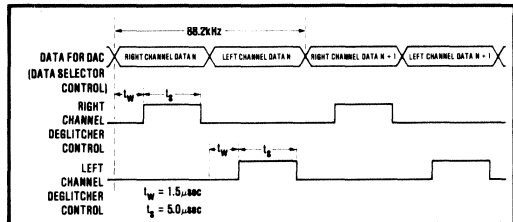

FIGURE 15. Timing Diagram for Digital Oversampling Technique when the Sampling Frequency is Multiplied by a Factor of Two.
14. Figure 15 is the timing diagram for this technique. This circuit requires a very fast D/A converter since the sampling frequency is multiplied by a factor of two or more. This technique results in intermodulation products being created, by mixing the sampling frequency and components of the audio frequency, that are far outside the audio band of 0 to 20kHz. These unwanted frequencies are easily removed by a low-order linear-phase analog filter following the deglitcher circuit since a sharp amplitude response is not required. A single PCM52/53 can be used for both the left and right channel as long as the oversampling rate of the digital filter is two. An oversampling rate of four can be used if a separate PCM52/53 is used for each channel. This would reduce the complexities of the analog filter required even further (at the expense of an additional D/A converter).